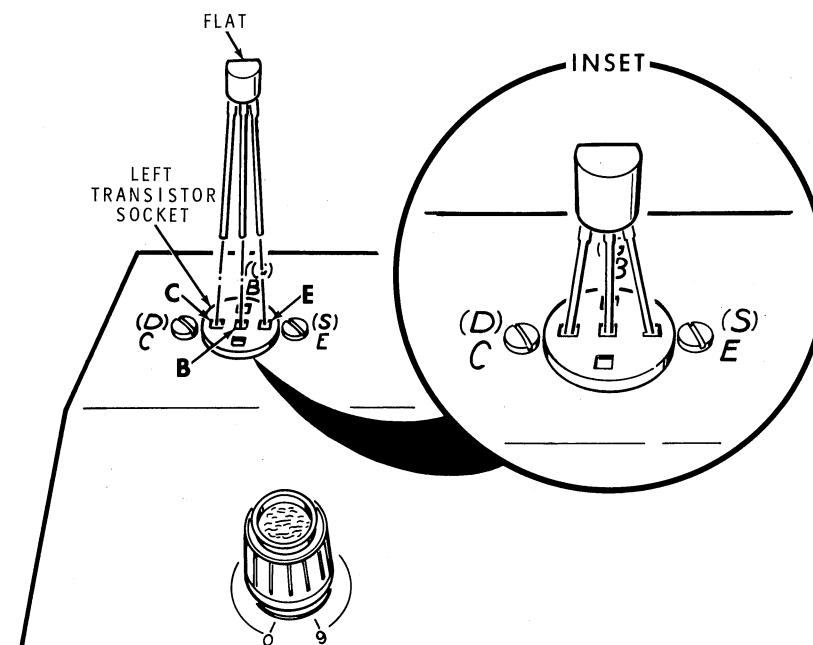

Figure 1-8
- () Refer to Figure 1-8 (fold-out from Page 52) and install the extra MPSA20 transistor in the left transistor socket as shown. Be sure the flat of the transistor is toward the rear of the cabinet.